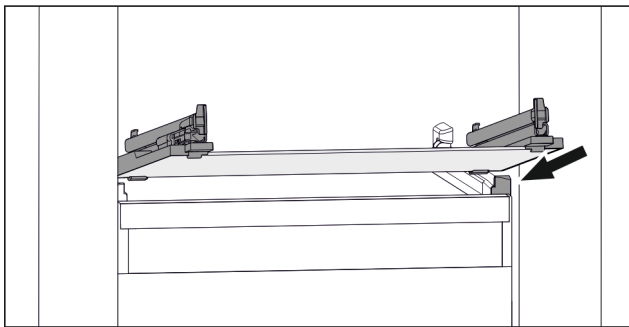

Fig. 42 Example illustration of glass shelf
- ▶ Position glass shelf at an angle behind the stoppers. (see Fig. 42)